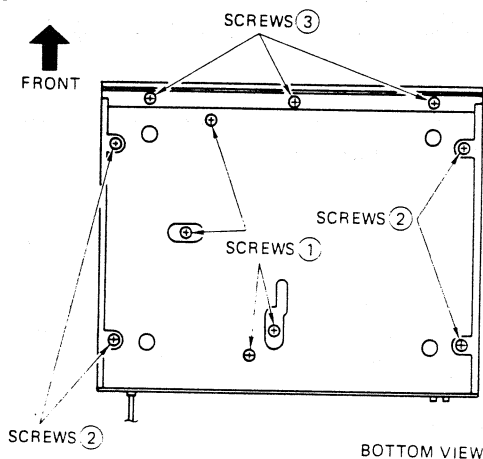

Fig. 1
- 1) Remove 4 red screws (1) from the bottom of the set. (Fig. 1)
- 1) Remove 4 screws (2) from the bottom of the set. (Fig. 1)